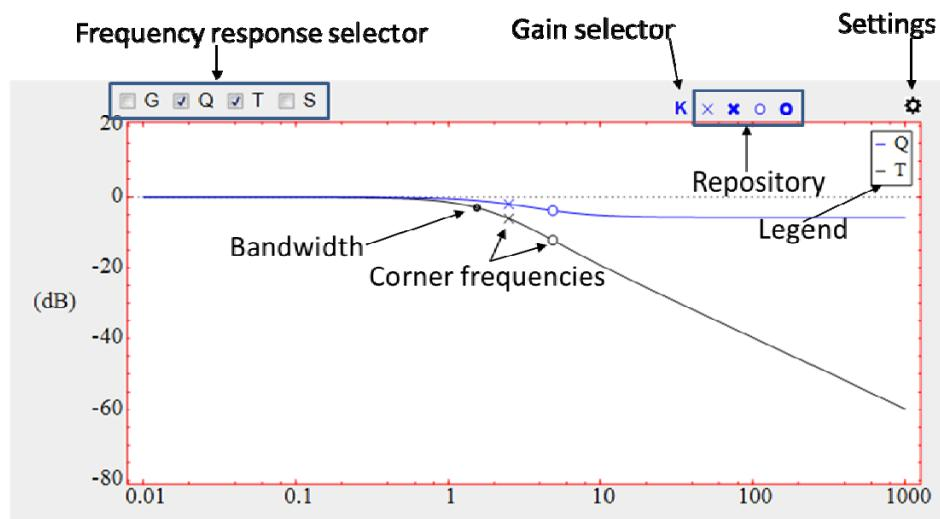
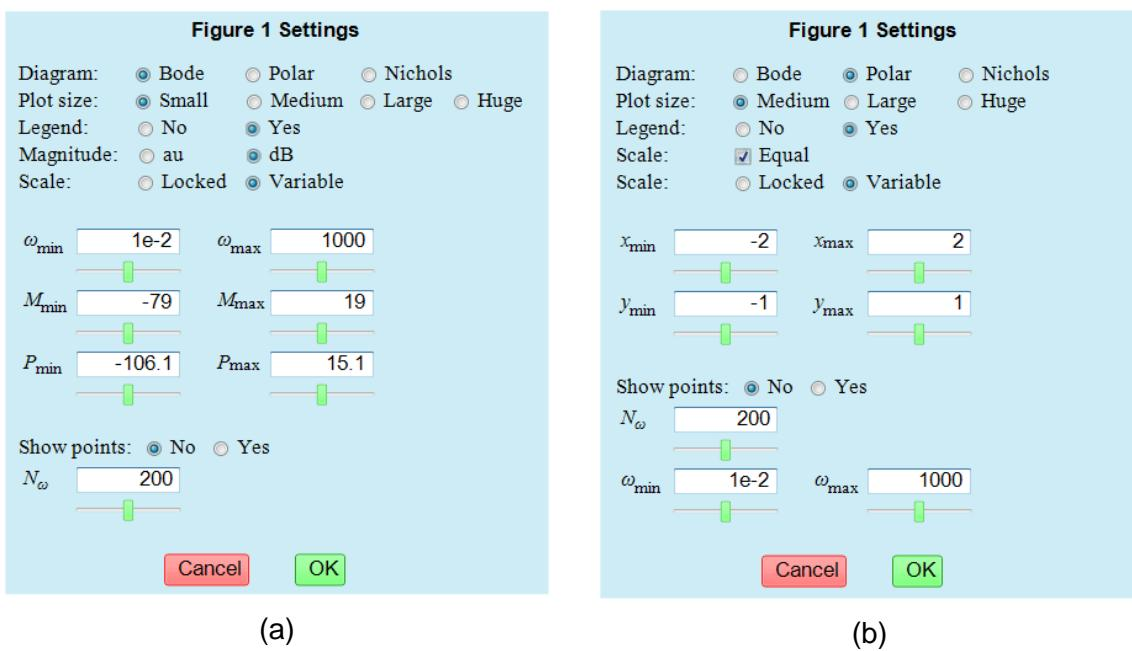

Figure 16. Frequency response zone with a Bode plot diagram
Figure 19. Auxiliary window to configure different options of the *frequency response* zone: a) Bode diagram, b) Polar diagram and Nichols diagram.
It is also possible to select the type and size of the frequency response diagram clicking on the gearwheel icon located in the right upper corner of the zone (see Figure 16 and Figure 19)
In this zone, the following elements are available (see Figure 16):
For example, when the block Q is selected, then the available functions in the selector are G , Q, T , and S , (see Figure 16).
- Settings. It is located in the upper right corner of the zone, and is represented by a gearwheel icon. When the user clicks on this icon, an auxiliary window is shown (see Figure 19) to choose several options of the frequency response: type of diagram (Bode, polar, or Nichols), size (small, medium, large or huge), the visualization of the legend, the units of the Bode magnitude (decibels (dB) or arithmetic units (au)), the scale, the visualization of the frequency response points, and the number of points. There are two types of scale:
- *Locked scale*. If the checkmark *Equal* is not marked (this condition is only necessary in the polar diagram), then the user can set the axes limits in the text fields and sliders of the auxiliary window. The following nomenclature is used: magnitude in dB (M), phase in degrees (P), frequency in radians per second (ω).